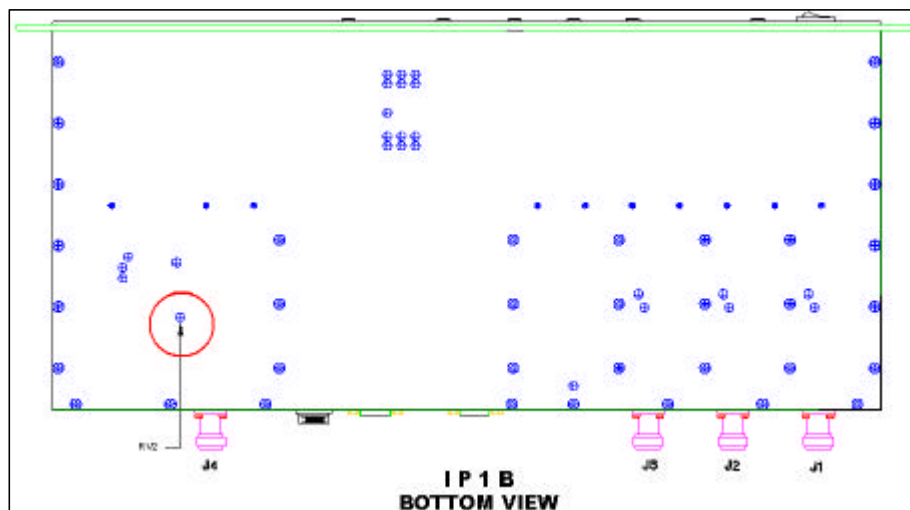

Figure 8: Power Adjustment Potentiometer Location for the IP1B
The base station power is adjusted mechanically by tuning a potentiometer (pot) on the bottom of the base station. Depending upon the model, this pot can be reached through an access hole in the bottom cover on either the exciter board or power amplifier board. Figures 8, 9, and 10 display the Power Adjustment Potentiometer location for the IP1B, IP4B, and the IP8B.
**Step 3** Locate the adjustment hole (see Figures 8, 9, or 10 according to the model being used).